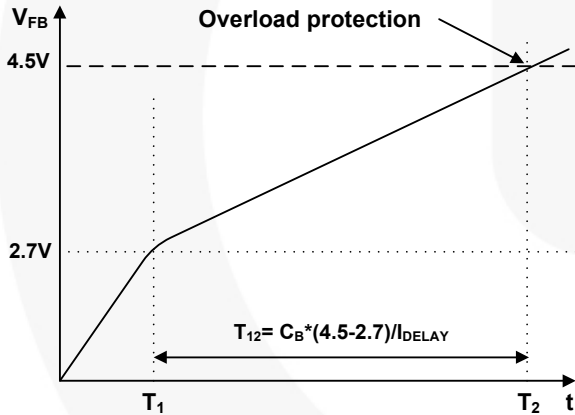

Figure 18. Overload Protection
**3.1 Overload Protection (OLP):** Overload is defined as the load current exceeding its normal level due to an unexpected abnormal event. In this situation, the protection circuit should trigger to protect the SMPS. However, even when the SMPS is in the normal operation, the overload protection circuit can be triggered during the load transition. To avoid this undesired operation, the overload protection circuit is designed to trigger after a specified time to determine whether the situation is transient or a true overload. Because of the pulse-by-pulse current limit capability, the maximum peak current through the senseFET is limited and, therefore, the maximum input power is restricted with a given input voltage. If the output consumes more than this maximum power, the output voltage ( $V_O$ ) decreases below the set voltage. This reduces the current through the opto-coupler LED, which also reduces the opto-coupler transistor current, thus increasing the feedback voltage ( $V_{FB}$ ). If  $V_{FB}$  exceeds 2.7V, D1 is blocked and the 5 $\mu$ A current source starts to charge  $C_B$  slowly up to  $V_{CC}$ . In this condition,  $V_{FB}$  continues increasing until it reaches 4.5V, when the switching operation is terminated, as shown in Figure 18. The delay time for shutdown is the time required to charge  $C_B$  from 2.7V to 4.5V with 5 $\mu$ A. In general, a 10 ~ 50ms delay is typical for most applications. This protection is implemented in auto-restart mode.